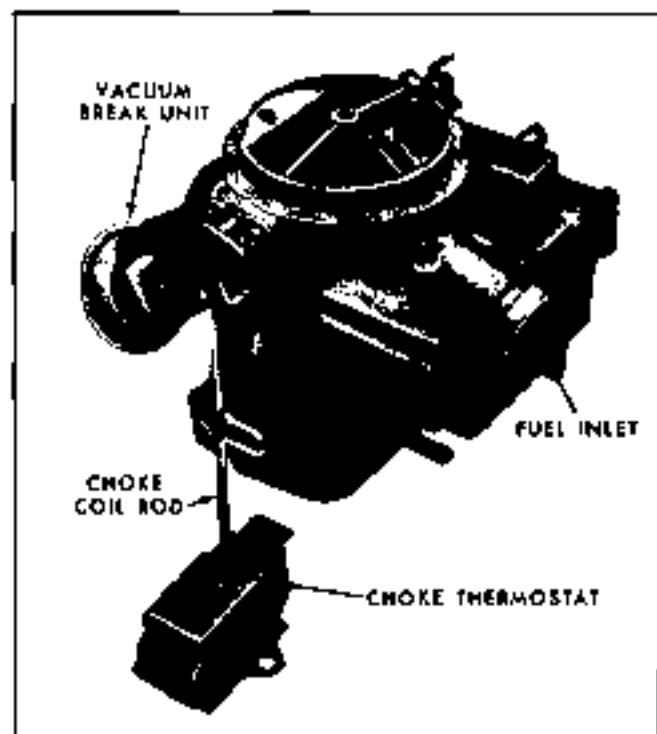

Fig. 6B-27 Rochester 2GV Carburetor
3. Detach choke coil rod (Fig. 6B-27) from choke shaft lever after removing retaining clip.
4. Remove retaining screw at end of choke shaft and remove choke trip lever and fast idle link and lever (Fig. 6B-28). Lever can be removed from link by turning until slot in lever will pass over tang on link. The link and fast idle lever are retained by a Truarc washer. Disassembly of these pieces will destroy Truarc washer.
5. Remove eight cover screws and lift cover from bowl (Fig. 6B-29).